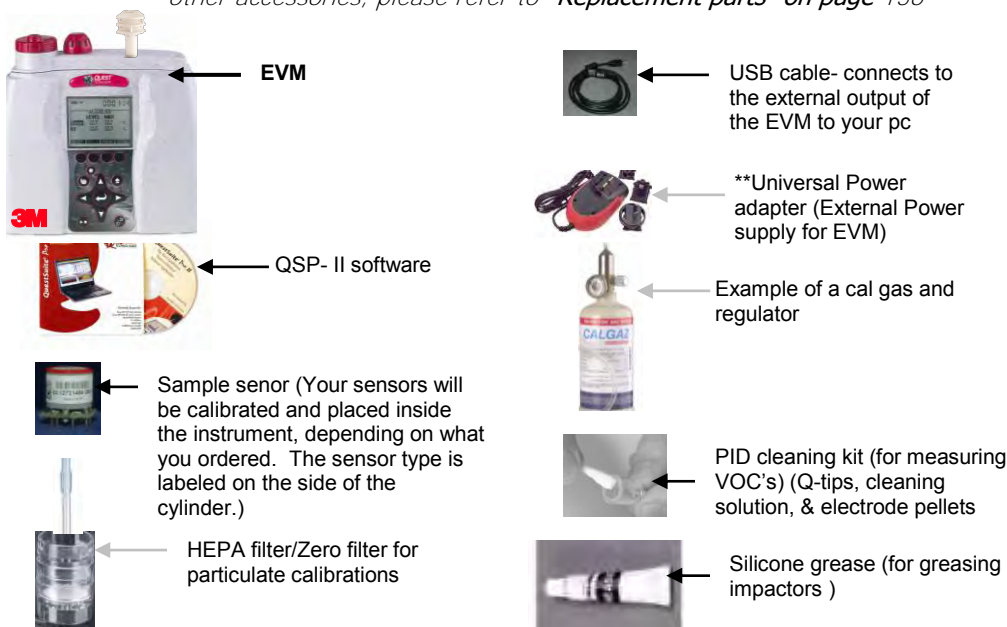

Figure 2-1: Identifying your equipment
- **NOTE:** Depending on the accessories you selected, the EVM may have the components displayed in Figure 2-1. For additional sensors or other accessories, please refer to "Replacement parts" on page 136